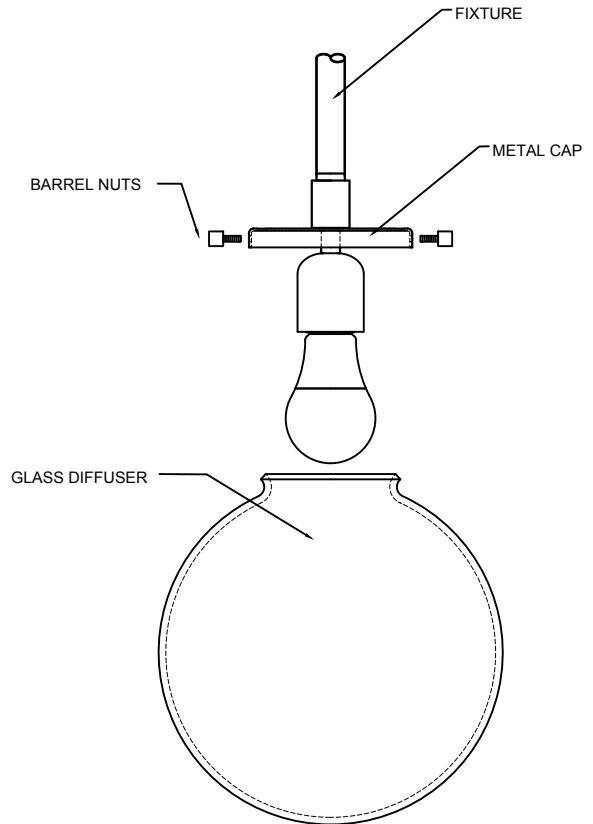

FIGURE-04
9. Install glass diffuser to the fixture, fit the glass to the metal cap and secure it by fastening the barrel nut to the metal cap. (See Figure-04)